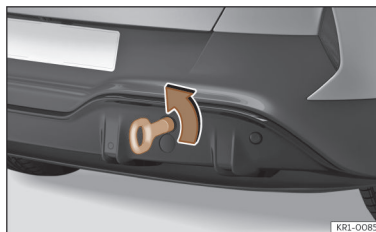

Fig. 190 Right side of the rear bumper: towline anchorage screwed in.
- Screw the towing eye in the housing by turning it to the maximum **anticlockwise** >>> Fig. 190, >>> ①. Use a suitable object that can completely and securely tighten the towing eye in its housing.